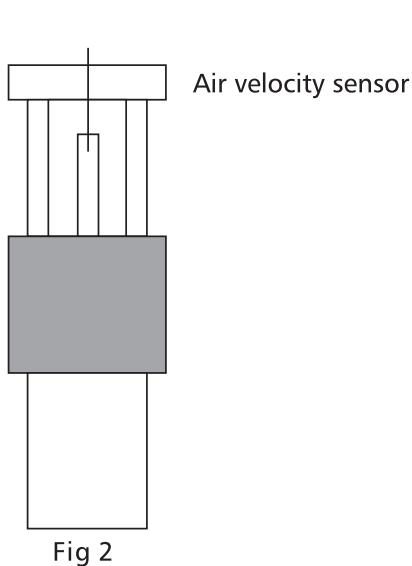

Fig 2
- 5.Slide the sensor cover to the down position, let the air velocity sensor to contact the air, refer Fig.2. Extent the telescope probe to the convenient length, refer Fig.4.